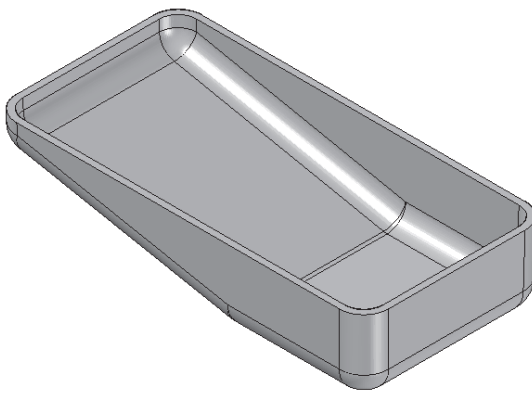

Figure 8-59 Model after creating the thin wall feature
- d. Add a thin wall feature to the model, refer to Figure 8-59.
4. Choose the **Preview** button and then choose **Finish** to create a thin wall feature. The model, after creating the thin wall feature, is shown in Figure 8-59.